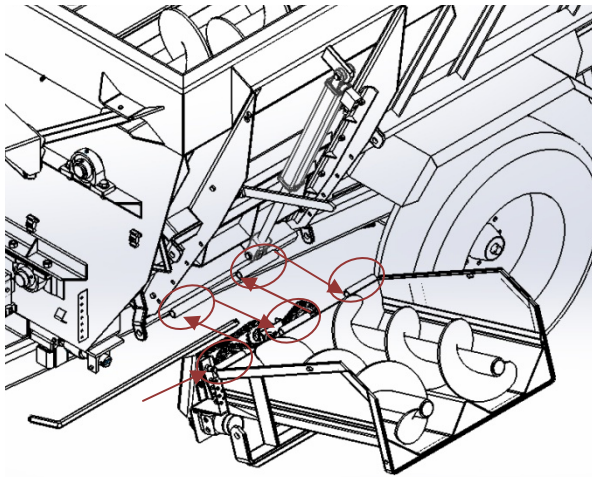

Figure 1
1. Using a forklift or loader, lift chute close to proper height at bottom of door. Line up hinges by hand, slide the hinge pin through the aligned holes (see fig. 1). Note : the hinge pin may be assembled through the front side or the rear side depending on the mixer model.